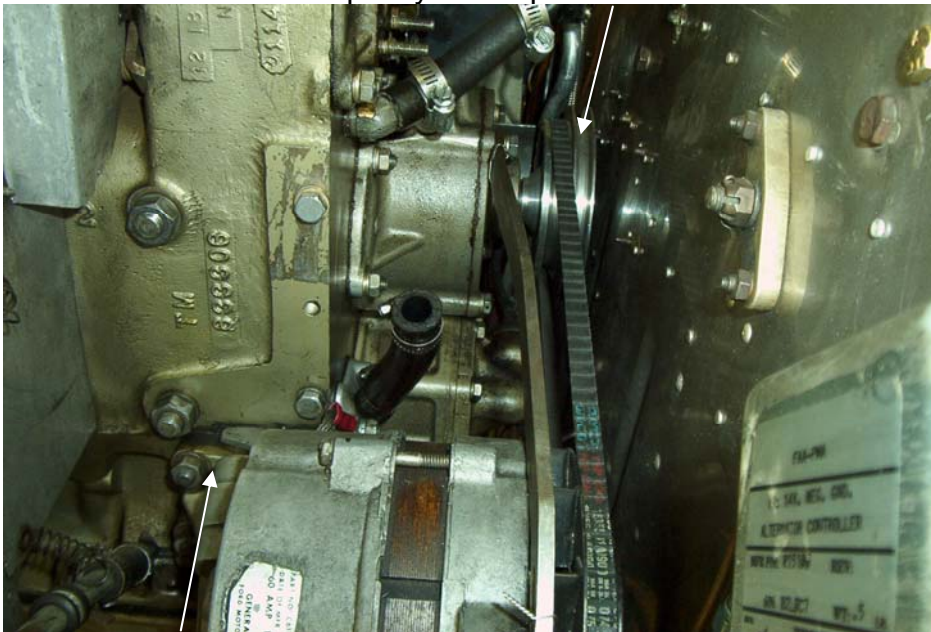

Figure 1
4. Loosen the supercharger idler and remove the supercharger belt and loosen the alternator and remove the alternator belt. Remove the alternator and remove the 4 nuts and washers securing the alternator support to the engine remove and modify the support per FAT Inc. drawing P/N 182LR0116, or P/N 182LR0017, or P/N 182LR0018 as appropriate. (figure 1)
6. Remove the alternator/supercharger drive pulley from the rear of the engine and replace it with the new double pulley, P/N182LR014-2, using the existing hardware. Tighten to 37.5 to 41.2 ft. lbs. (Figure 1)
7. Reinstall the alternator belt, FAT P/N 182355, and tighten the belt by rotating the alternator. (Figure 1)
1. After step 6 remove the alternator and remove the 4 nuts and washers securing the alternator support to the engine (figure 1), remove and modify the support per FAT Inc. drawing P/N 182LR0116, or P/N 182LR0017, or P/N 182LR0018 as appropriate. Reinstall the modified alternator support and alternator.